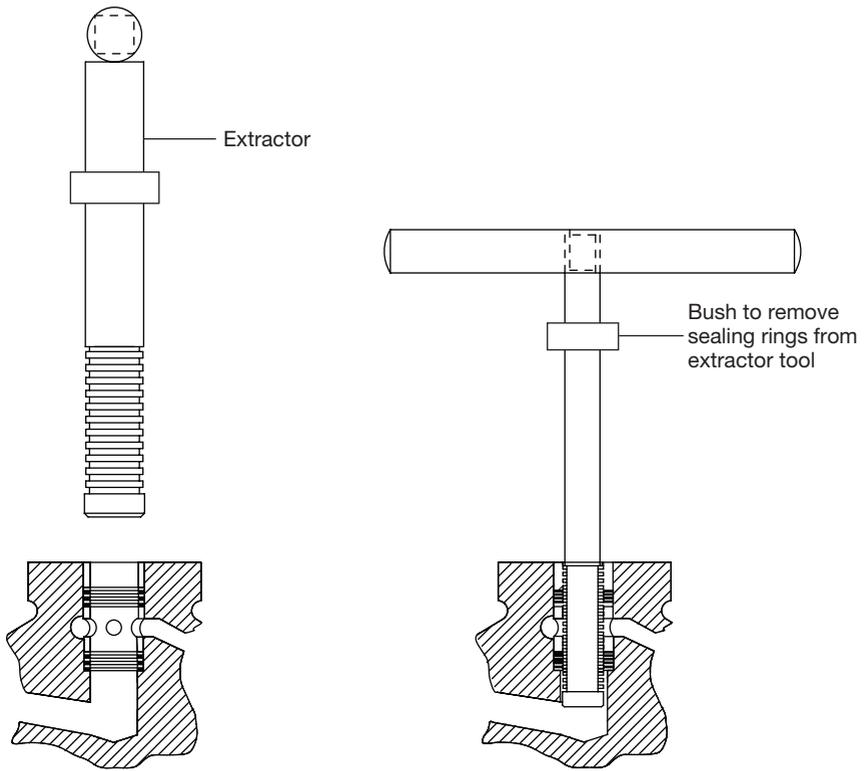
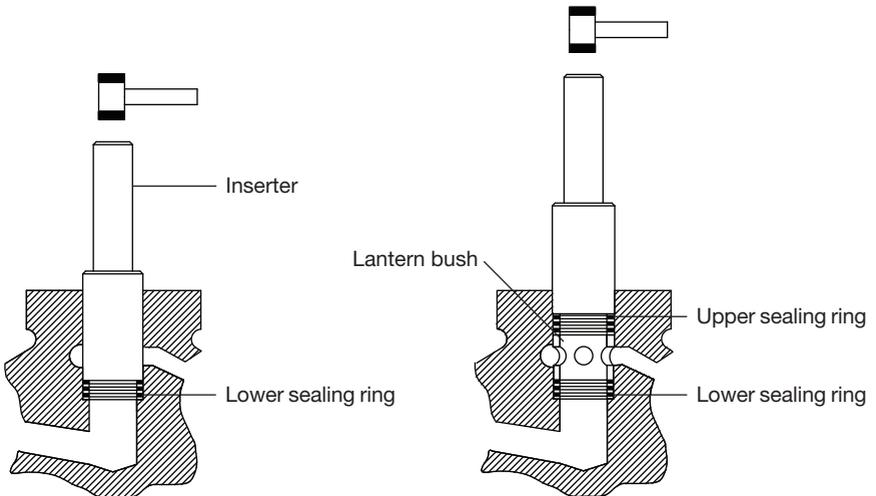

Fig. 5 View showing valve extractor tool
Fig. 6 View showing valve inserter tool
- Using the handwheel (6), fully open the valve.
- Remove the nuts (10) and washers (11) from the studs (9).
- Carefully turn the handwheel in the closing direction to lift the bonnet (8).
- Rotate the bonnet (8) to ensure that the flange bolt holes are misaligned with the studs (9).
- Turn the handwheel in the opening direction to release the piston (5) from the sealing rings (2 and 3) and so release the piston/bonnet sub-assembly from the body.
- Examine the piston (5) for signs of scoring, corrosion etc., which could affect perfect tightness of the valve.
- With the valve dismantled, insert the valve internals extractor tool (Figure 5) through the sealing rings (2 and 3) and the lantern bush (4).
- Firmly tap to ensure that the tool bottoms out in the bore and with a quarter turn of the handle carefully remove the two sealing rings (2 and 3) and the lantern bush (4).
- Fit new lower sealing ring (2), lantern bush (4) and new upper sealing ring (3), ensuring they fit perfectly. (Note: The lower and upper rings are the same). Use the Insertor tool (Figure 6) for fitting sealing rings.
- Take the piston/bonnet sub-assembly and turn the handwheel (6) in the opening direction up to the stop.
- Insert piston (5) into the upper sealing ring and push it down until it is possible to fit washers (11) and screw nuts (10) onto the studs (9) and then hand tighten.
- Shut the valve fully, ensuring that the bonnet (8) is driven down straight, gradually tighten the nuts (10) to the recommended torque (see Table 1).
Extractor tool & Inserter tool	See Figures 5 and 6, page 11